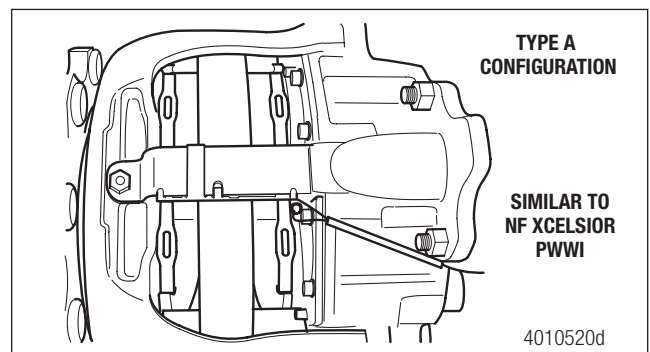

Figure 25
- c. Ensure the PWWI wiring is routed over the pad backplate, away from the rotor. Mount the wiring as shown in Figure 25.